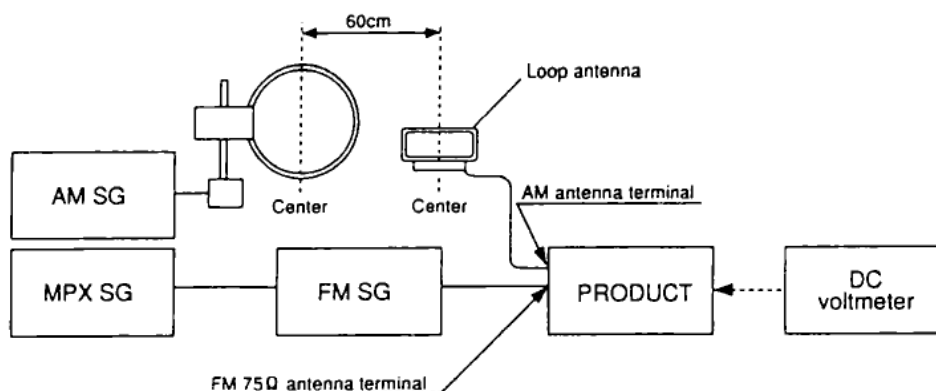

Fig. 1-1. AM and FM Adjustment Wiring Diagram
- Set the FM/AM selector to AM (MW) BAND.
- Connect the wiring as shown in Fig. 1-1.